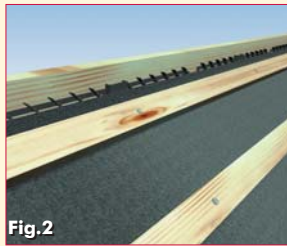

Fig.2
3. Lay the roofing felt to finish 15mm from the top of the felt spacers. (Fig.2)